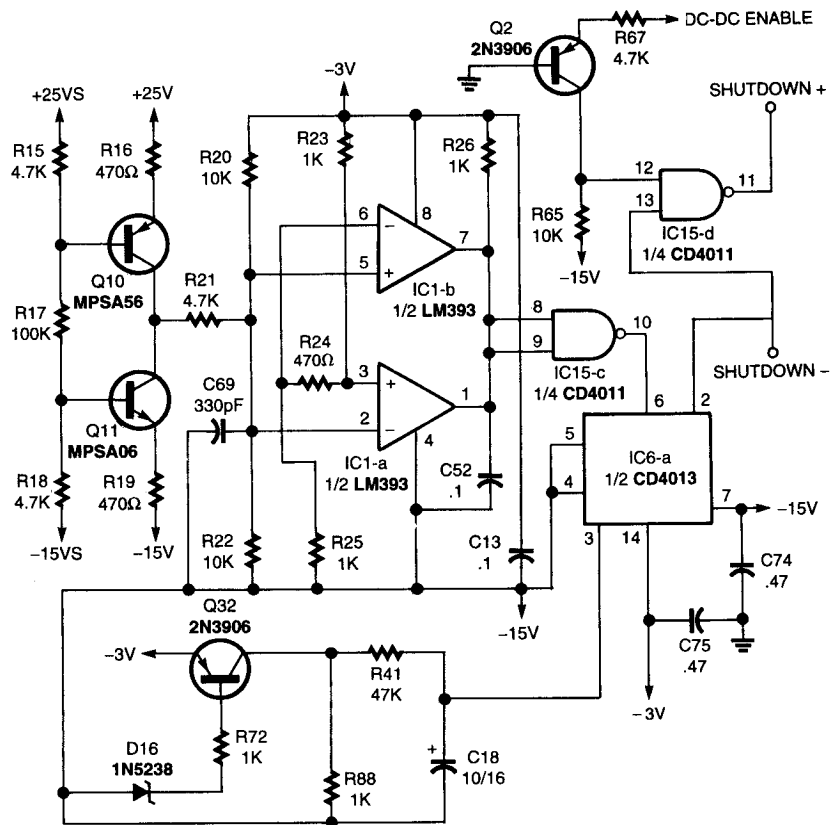

Fig. 6. The unbalanced-load shutdown circuit detects fluctuations in the supply voltages which would indicate a failure in one of the output transistors.
**Shutdown Control.** The shutdown circuit of Fig. 6 is used to control